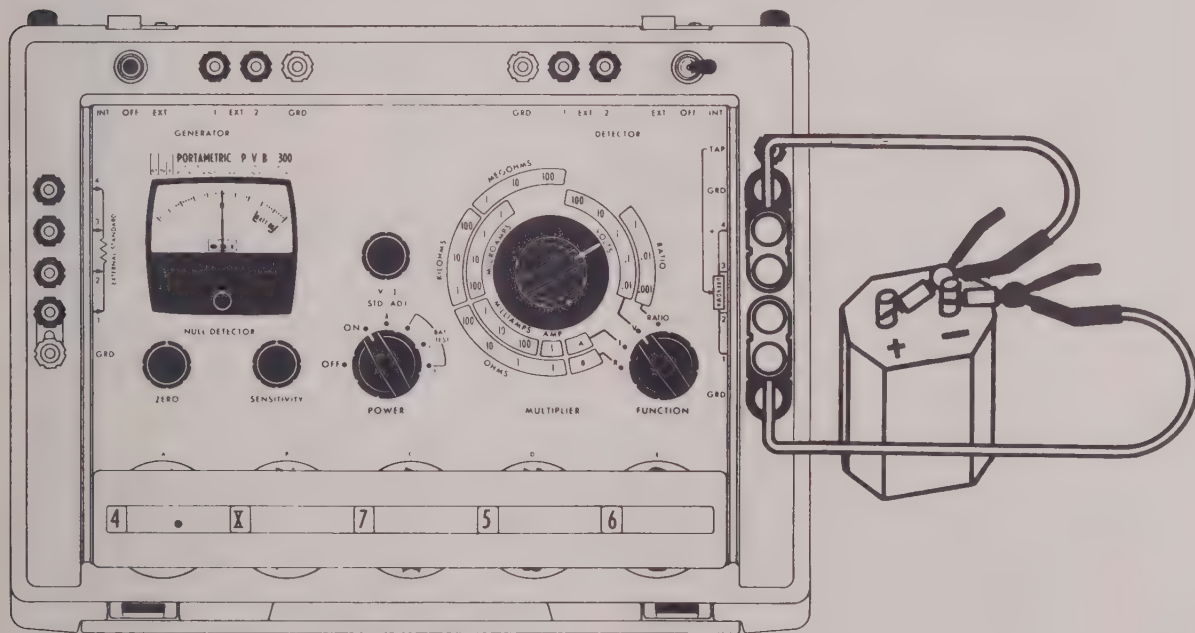

Figure 2.4 - Voltage Measurement
- 12) Connect unknown voltage to UNKNOWN terminals 1 and 4 observing that + end connects to terminal 4. KELVIN KLIPS[®] can be used. (See Figure 2.4)